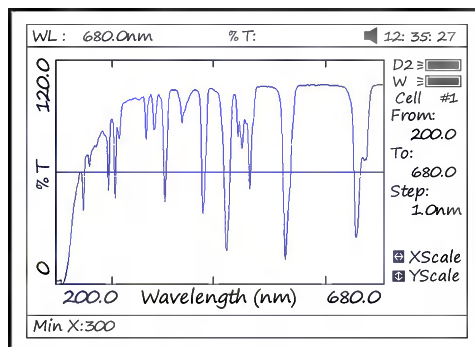
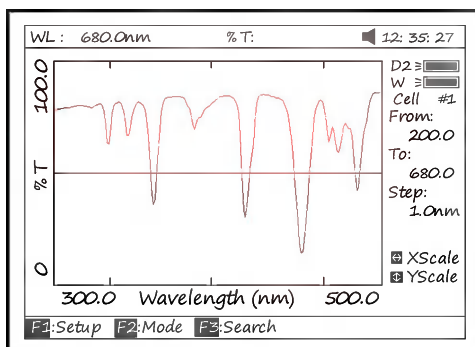

Fig47
Fig 48
- If you want to change the scale, press **【<】** or **【>】** to change “x” scale (Fig 47), input upper limit and lower limit by pressing the numeric keypad . To change “y” scale press **【^】** or **【v】** . After these inputs the instrument will redraw the curve (Fig 48).
Press **[SAVE]** to save the curve. Note: Load/Save requires the first scan display page (Fig. 48). Press **ESC** if in Search to return to the required page